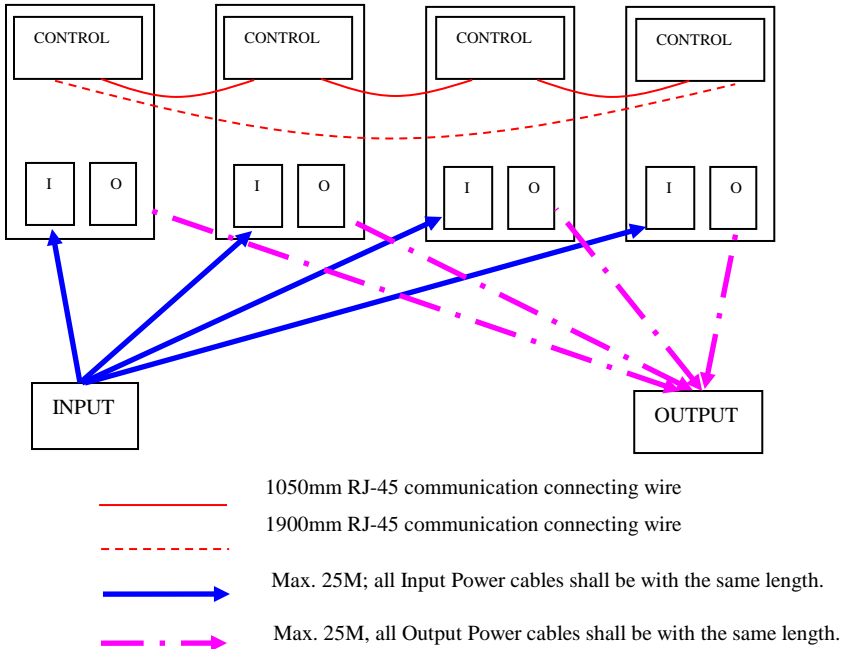

Fig. 2-7
2.4.2. The maximum length of the communication connecting wires shall be less than 7M. it shall be connected as a “Ring” loop as indicated in Fig. 2.7.
2.4.3. Arrange the power cables and the control signal cables as indicated in Fig. 2-6 & Fig. 2-7 respectively depending on the UPS type. Ensure all the circuit breakers at input & output ends are set to “Off” position.